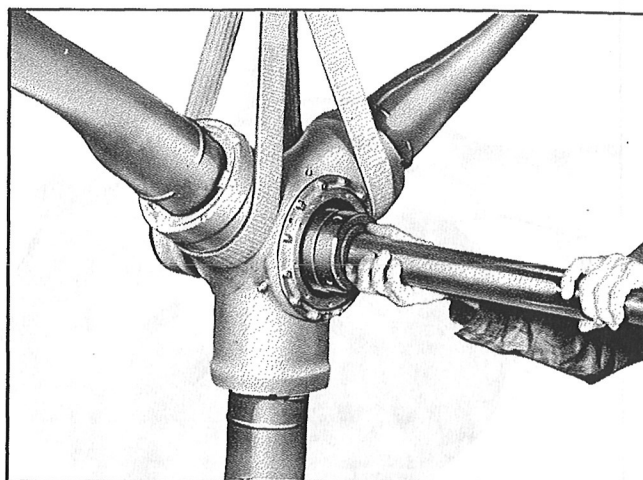

Figure 216—Installation of Balancing Arbor
*Step 12.*—Insert the arbor and carefully lower the propeller on the balancing ways, using caution not to damage the knife edges or the arbor. See Figures 216 and 217.